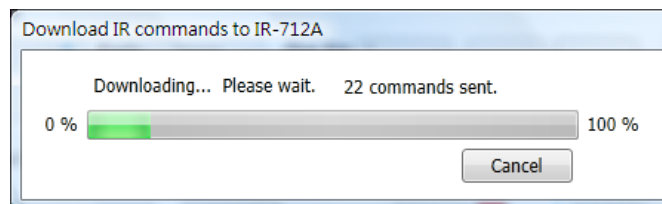

Fig. 12: Downloading IR commands to IR-712A
- (1) Select the IR command item from “Device Name” and “Command Name” ComboBoxes.
- (2) Click “Learn On” button to enable IR learning mode where TR/LN LED is ON.
- (3) Aim the emitter head of the remote control (RC) to the “IR Input” position of IR-712A and push the RC’s button which is to be learned in a short time. The distance between IR-712A and RC should be less than 3 cm. After IR learning is finished, the TR/LN LED is OFF. The learning result is sent back to the utility.
- (4) Select the item of IR output channel combobox, e.g. IR Output 1 is selected.
- (5) Aim the IR emitter, which is plugged in IR Output 1 jack, at the IR receiver of the controlled device. Click “Run Command” button to check the effectiveness of the IR learning command. Repeat step 2 and 3 if there is no action on the device.
- (6) Click “Save this Cmd” button to save the learning data to the item of “Command Name” combobox, e.g. the item in Fig. 12 is “Play”.